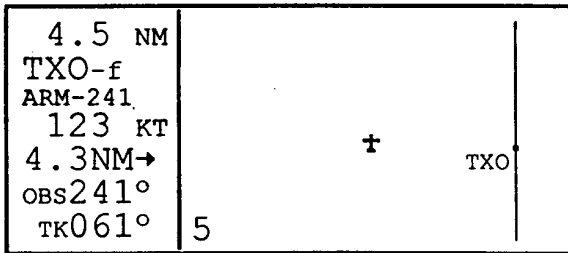

Figure 3D-68. Radar Vectors
3. Change the selected course on the EHSI to the final approach course. It is possible to maintain the aircraft orientation on the Super NAV 5 page. Refer to Figure 3D-68.